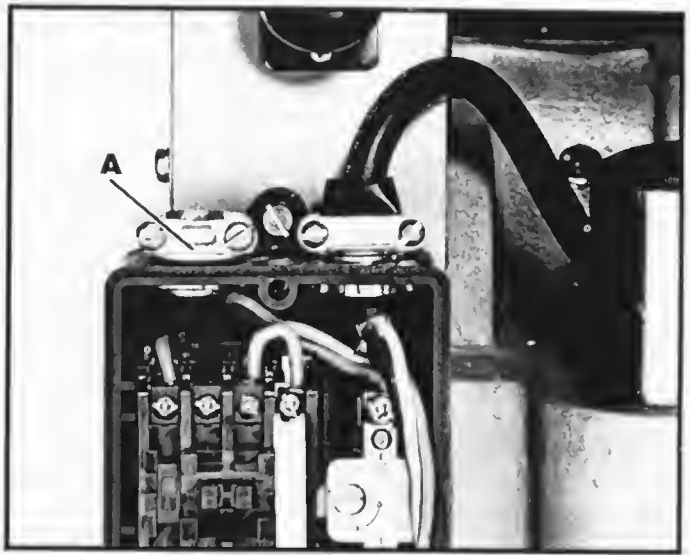

Fig. 17
2. Knock out box connector opening on top of switch box and assemble cable clamp (A) Fig. 17, to opening. **NOTE:** Cable clamp is not supplied with your machine.